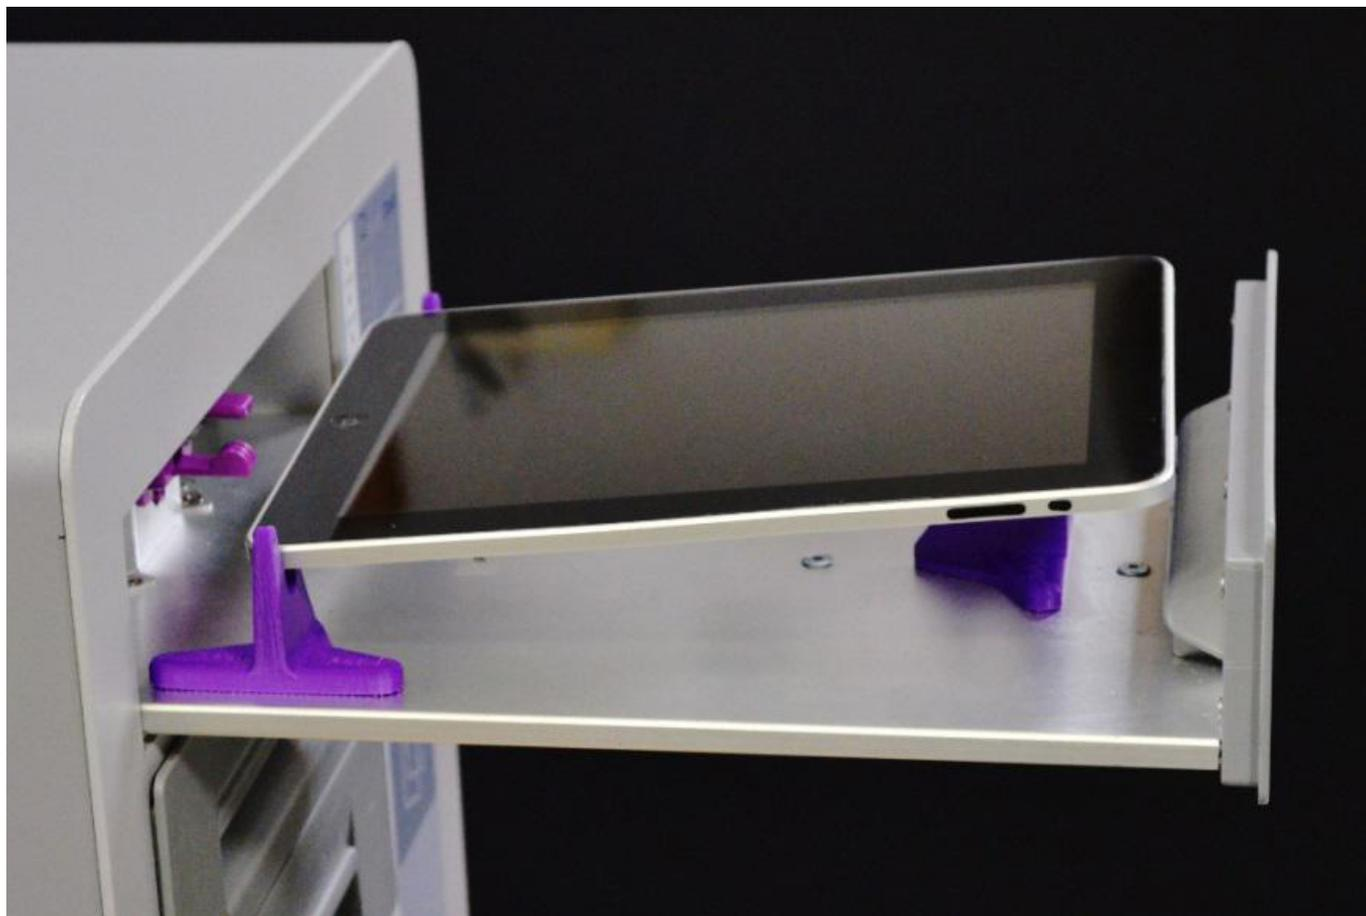

figure 4
3. Rest tablet on tablet supports [Figure 4].